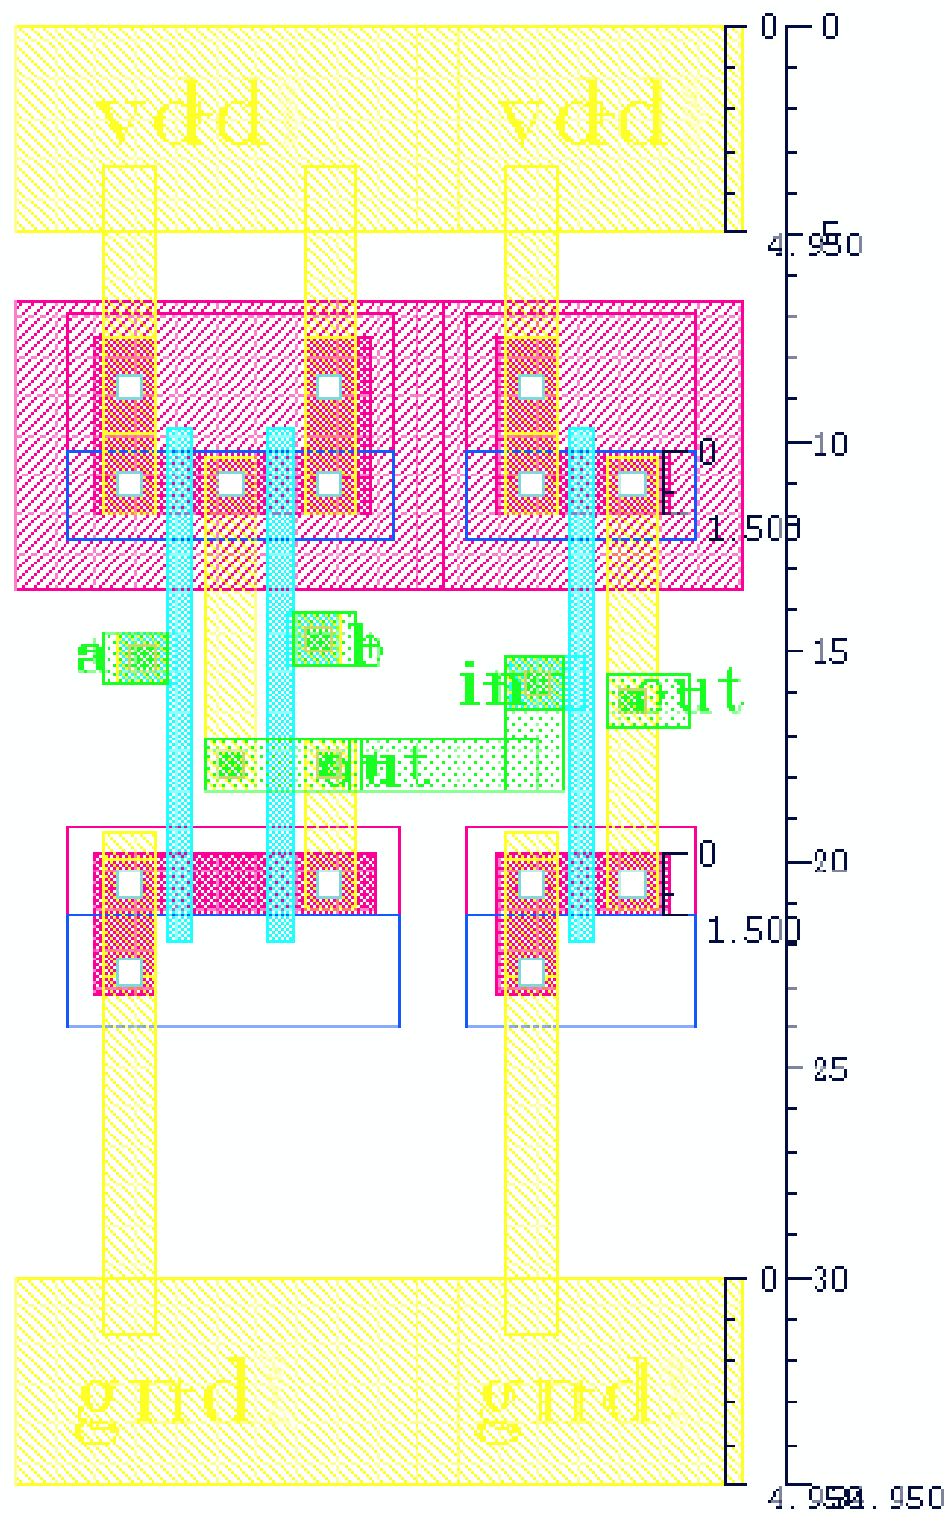

Figure 4: A layout illustration of the *And* gate.
2. In layout view, connect the designed **Nand** and **Inverter** to form an **And** gate in a logic row as shown in Figure 4.